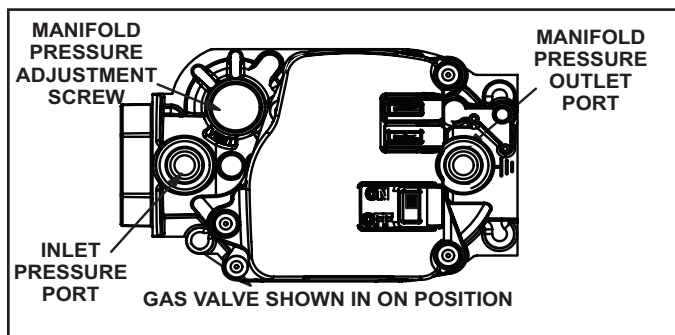

Figure 32
#### Gas Valve Operation (Figure 32)
- 6 - Move switch on gas valve to **OFF**. Do not force. See figure 32.
- 8 - Move switch on gas valve to ON. Do not force. See figure 32.